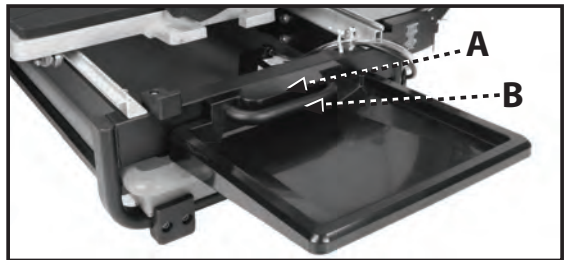

FIGURE 10
1. Attach the lower splash tray first, by engaging the formed cut-out (A, Fig. 10) on the tray inside the water tray handle (B, Fig. 10).